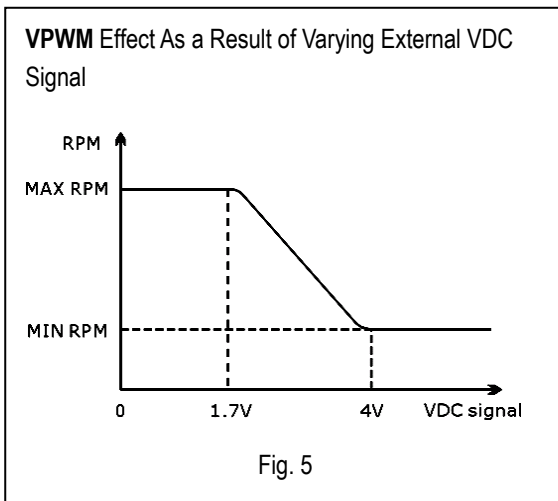

Fig. 5
- **VPWM:** by applying a DC voltage signal at the input. (See Fig 5)